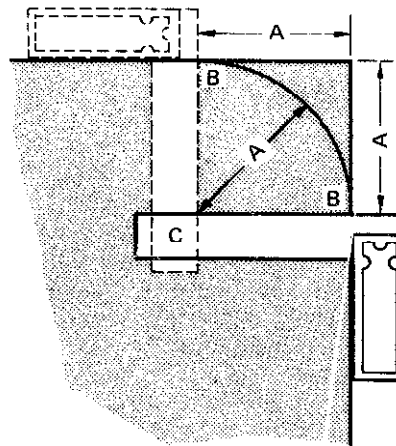

Fig. 4-42 Laying out a rounded corner
1. Measure an equal distance from the corner along the adjacent sides (A, figure 4-42).